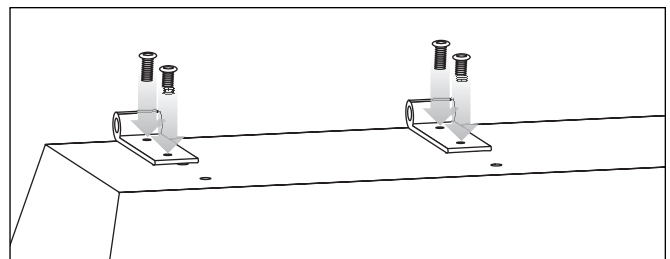

Figure 12. Reinstalling the Script i cabinet brackets.
- 8 Rotate the cabinet brackets 180 degrees and install them on the opposite side of the cabinet (see figure 12).